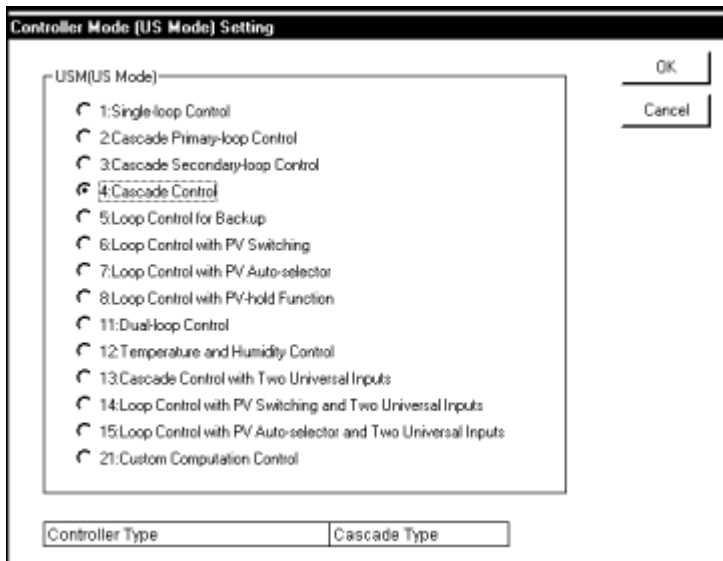

Figure 4.1.4 [Controller Mode (US Mode) Setting] Dialog Box
- (1) Click the option buttons of the concerned suffix code and option code.
- (2) Click the <OK> button.
- (3) If you click the <Cancel> button, the [New/Modification] dialog box is resumed and the parameter is not updated.
- (4) After step (2), the [Controller Mode (US Mode) Setting] dialog box (Figure 4.1.4) opens.